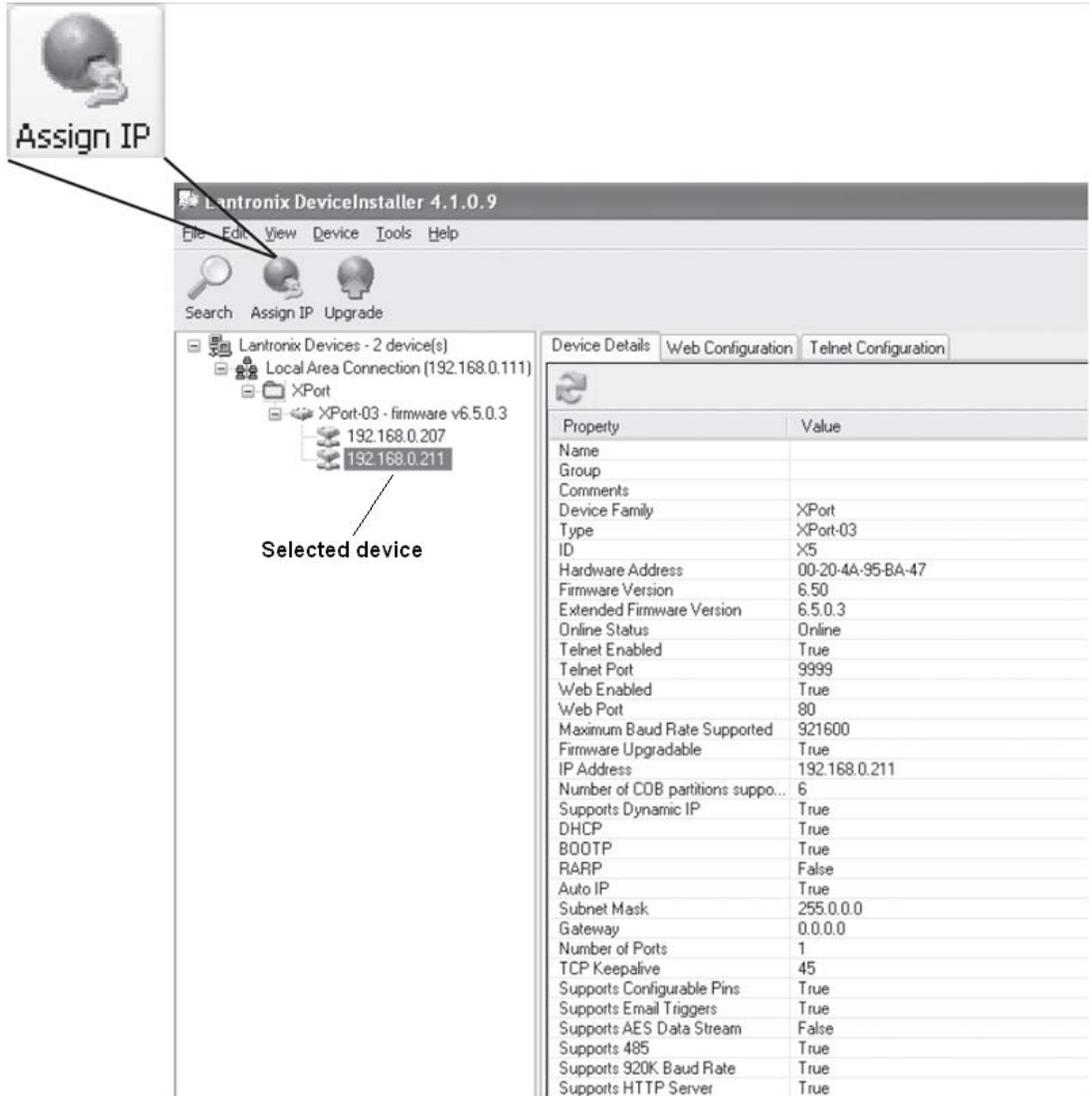

Figure 23: Device Details screen for selecting XPort device
4. The software may automatically detect XPort devices. If not, clicking the Search button (figure 22) will allow the program to locate and display the XPort connected devices (see figure 23).
- Select the **Assign IP** button, figure 23, from the upper left hand side of the screen.